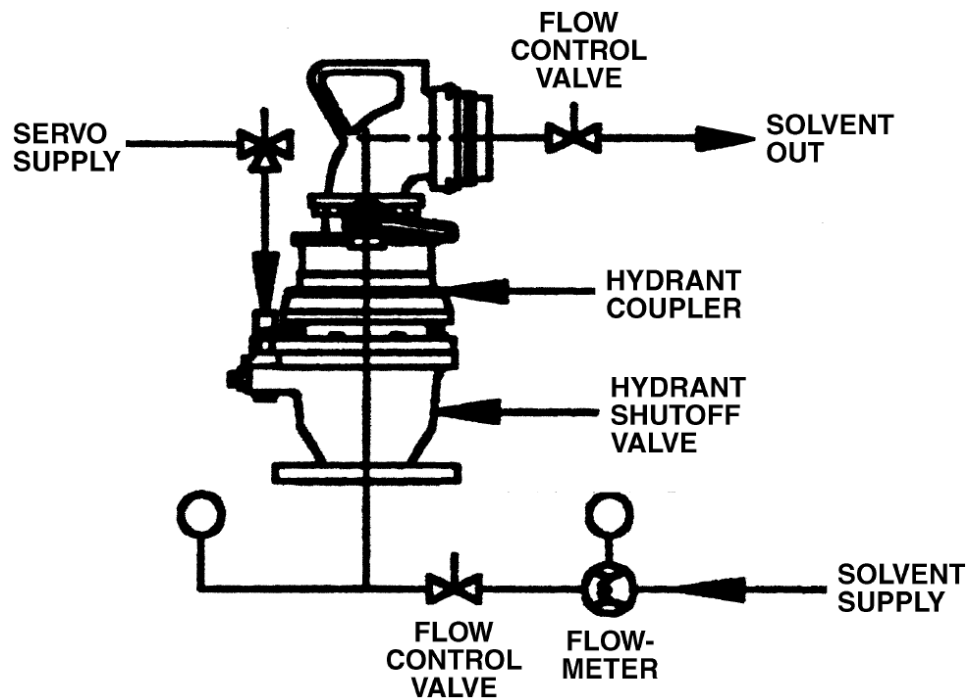

Figure 10. Flow Test Setup
1. Install the valve in a test setup equivalent to Figure 10.